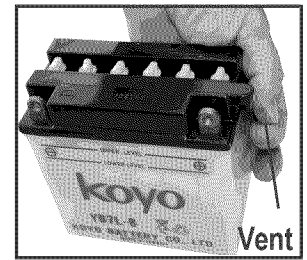

Figure 20
- Place battery on level surface. Remove Vent cap from battery vent located on top side portion of battery. (see figure 20)